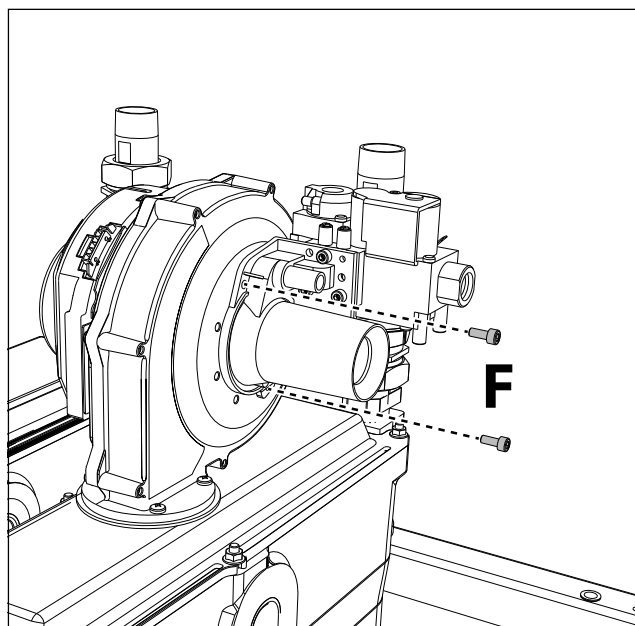
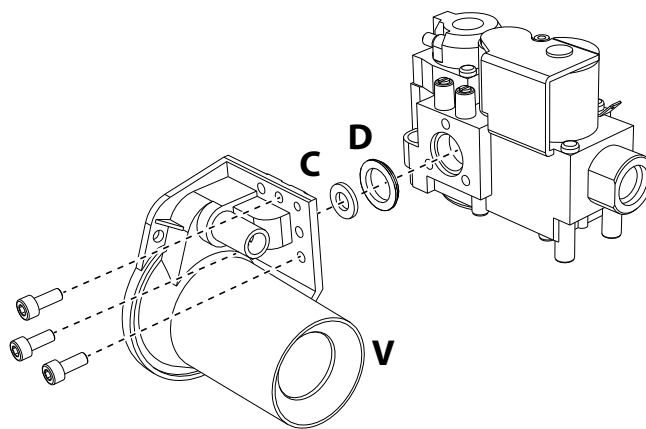

fig. 82
fig. 83
6. Remove the "Venturi Group" from the fan by undoing the two screws "F" (fig. 82).
7. Remove the Venturi "V" by undoing the 3 screws (see fig. 83).
Replace the gas nozzle "C", positioning it inside the gasket "D", with that contained in the conversion kit (see fig. 83). Reassemble the "Venturi Group" and secure it to the fan (see fig. 83 and fig. 82).